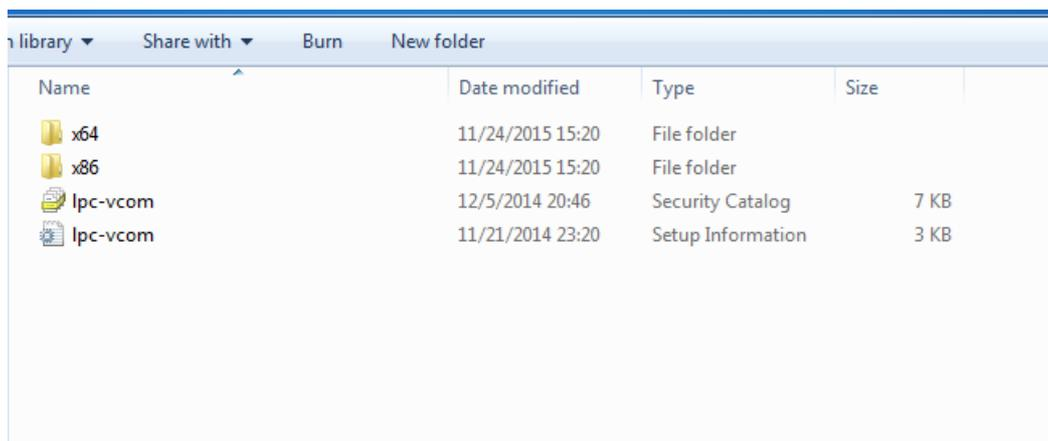

Fig. 5.
- Select “x86” driver for a 32-bit machine or x64 for a 64-bit machine. If not sure, select a root folder (folder in which x64 and x86 lay inside, as in Fig. 5).